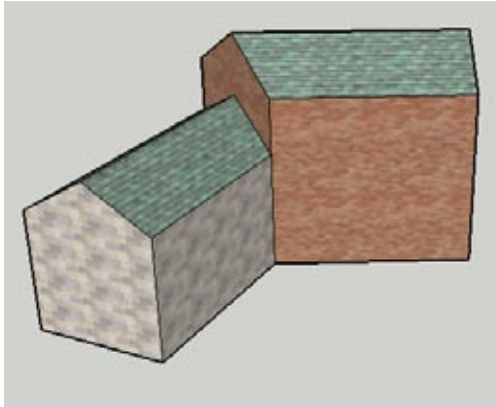

Figure 7-33
1. Start with a model of half of a house (Figure 7-33). You can create your model from scratch or download my Symmetry House model from the 3D Warehouse.